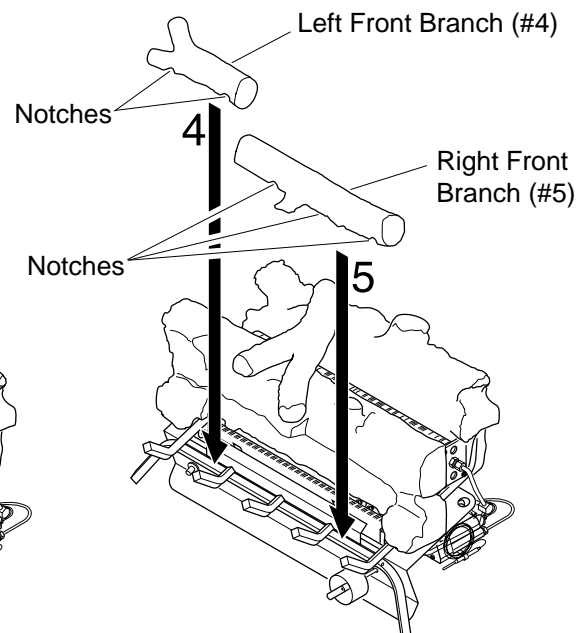

Figure 25 - Installing Left Front Branch and Right Front Branch
4. Place left front branch (#4) and right front branch (#5) into place (see Figure 25). Make sure notches on bottom rest on grates.